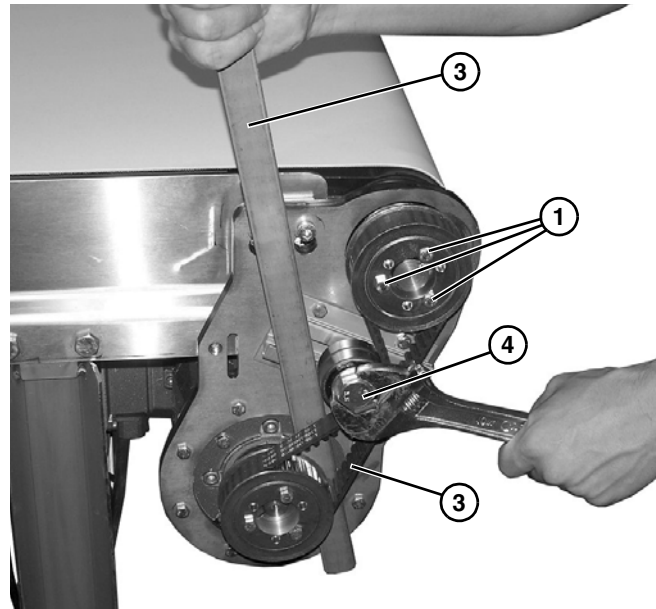

Figure 10
9. Tighten driven pulley taper-lock screws (Figure 10, item 1).
10. Tension timing belt (Figure 10, item 2) sufficiently to prevent belt skipping. A pry bar (Figure 10, item 3), may be used, as shown, to assist in belt tensioning.
11. Tighten tensioner screw (Figure 10, item 4) to secure position.